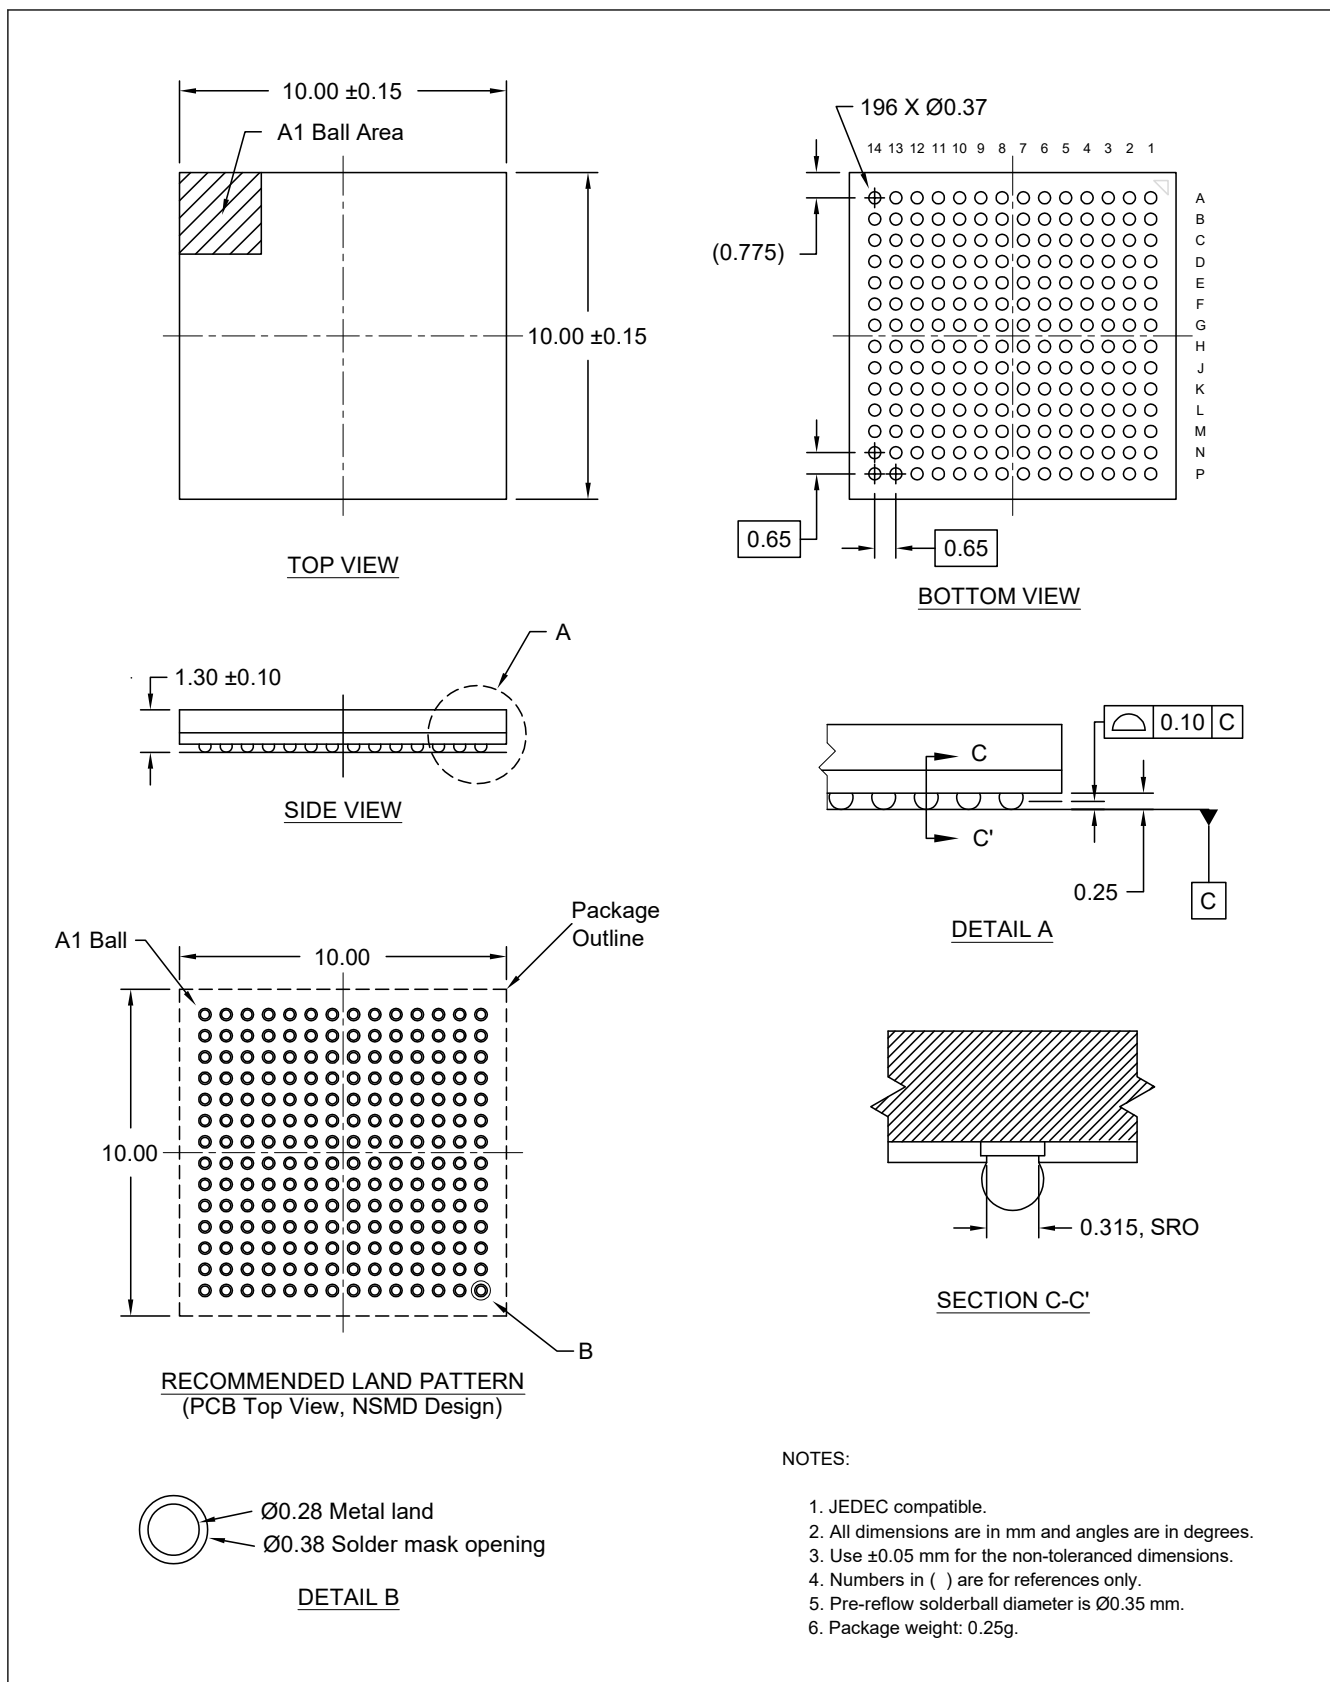

Figure A1.2 196-pin BGA, 0.65mm pitch
- Added Figure A1.2 196-pin BGA, 0.65mm pitch